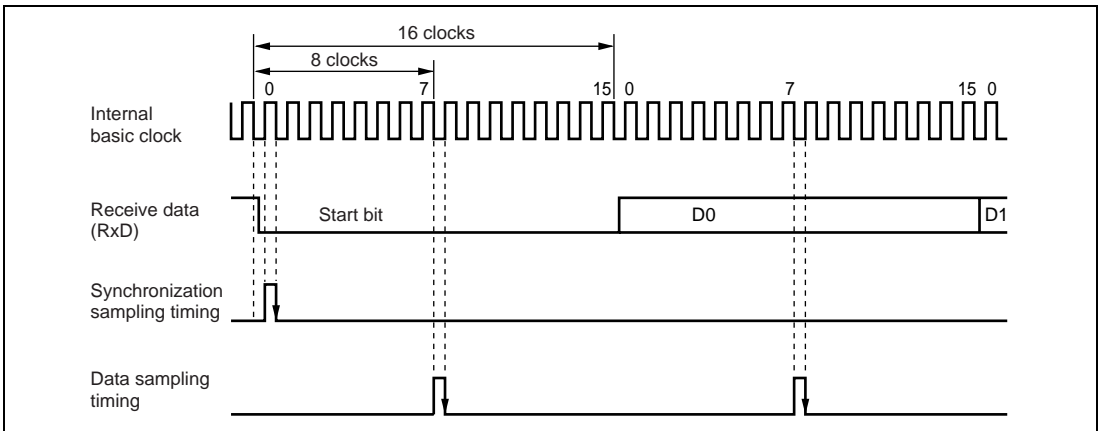

Figure 16.3 Receive Data Sampling Timing in Asynchronous Mode
In asynchronous mode, the SCI operates on a basic clock with a frequency of 16 times the bit rate. In reception, the SCI samples the falling edge of the start bit using the basic clock, and performs internal synchronization. If receive data is sampled at the rising edge of the 8th pulse of the basic clock, data is latched at the middle of each bit, as shown in figure 16.3. Thus the reception margin in asynchronous mode is determined by formula (1) below.